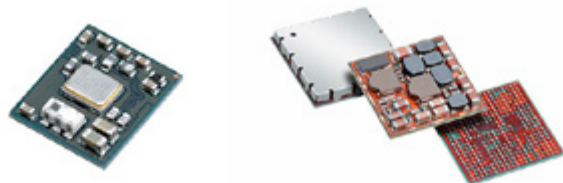

Figure 6: Space-saving TDK SESUB module
A typical example of a SESUB design is the extremely compact TDK Bluetooth 4.0 low energy module, developed for the Bluetooth 4.0 low energy (LE) specification, which is being marketed as Bluetooth Smart (Figure 6 left). With a footprint of only 4.6 × 5.6 mm² and a low insertion height of 1 mm, the new SESUB-PAN-T2541 Bluetooth 4.0 LE module sets the industry benchmark for Bluetooth Smart modules. The module is also very well suited for use in wearable devices thanks to its compact size.
SESUB is also highly suitable for handling the power management in smartphones. In the TDK power management unit (PMU) module (Figure 6 right), the IC for managing the power supply was embedded directly into the substrate for the first time. This innovative step allows manufacturers of end equipment to reduce their development costs and times still further. In combination with newly developed capacitors and power inductors in SMD versions, the module dimensions are only 11.0 mm x 11.0 mm x 1.6 mm. They also contain a highly efficient power supply for the buck converter in a 5-channel configuration with an output current of up to 2.6 A as well as low-noise, high PSRR (power supply rejection ratio) low dropout regulators for up to 23 channels and an extremely efficient charge circuit for lithium-ion rechargeable batteries.